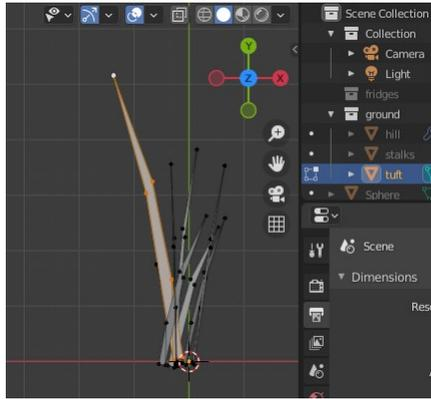

Figure 4-7 The Tuft object
7. Modify the plane to form a single blade of grass. In Edit mode and in orthographic view from the Z direction move the vertices, I subdivided one of the edges twice so I had a total of six vertices to allow better shaping, see Figure 4-7.
9. Repeat six or seven times until you have a little tuft, as shown in Figure 4-7. You will need to move some blades up and down in the Z direction too to spread them out in two dimensions.